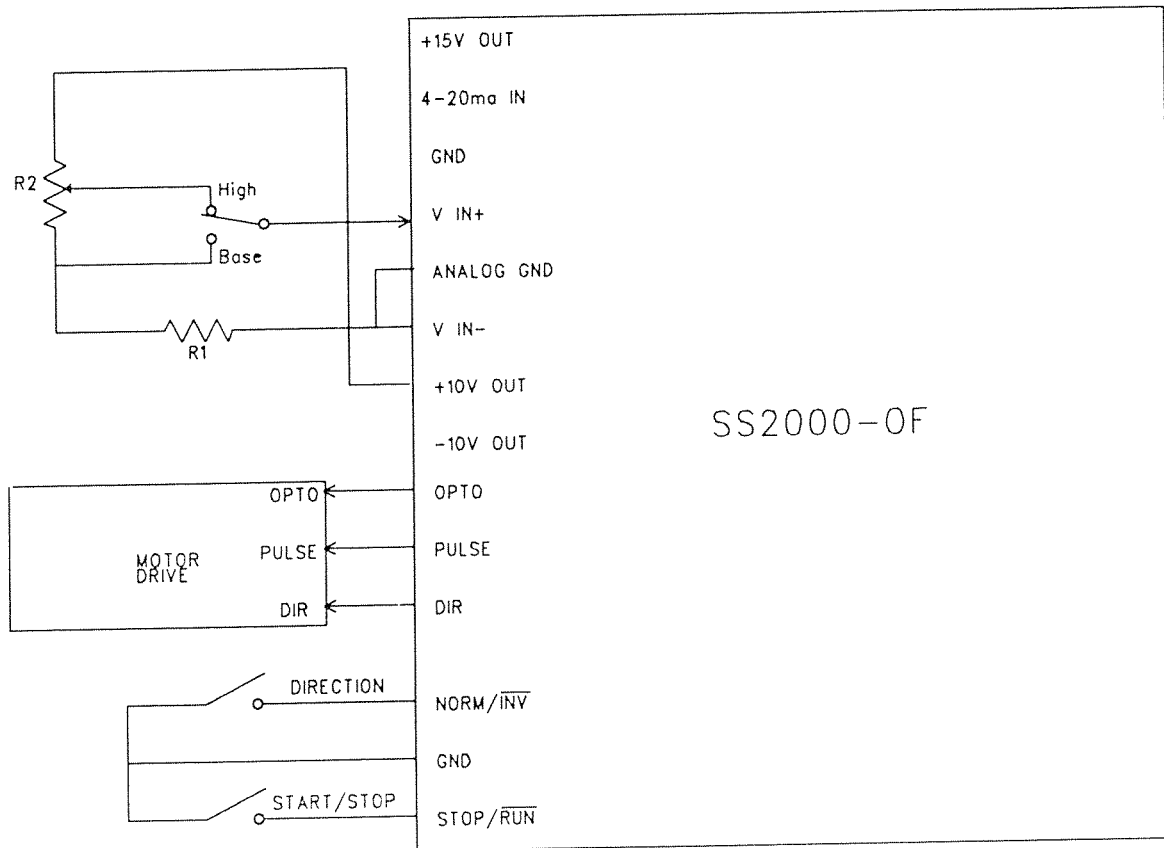

Figure 4.5, User's High Speed/Base Speed Selection Circuit
3) High Speed/Base Speed Selection Circuit (Figure 4.5)